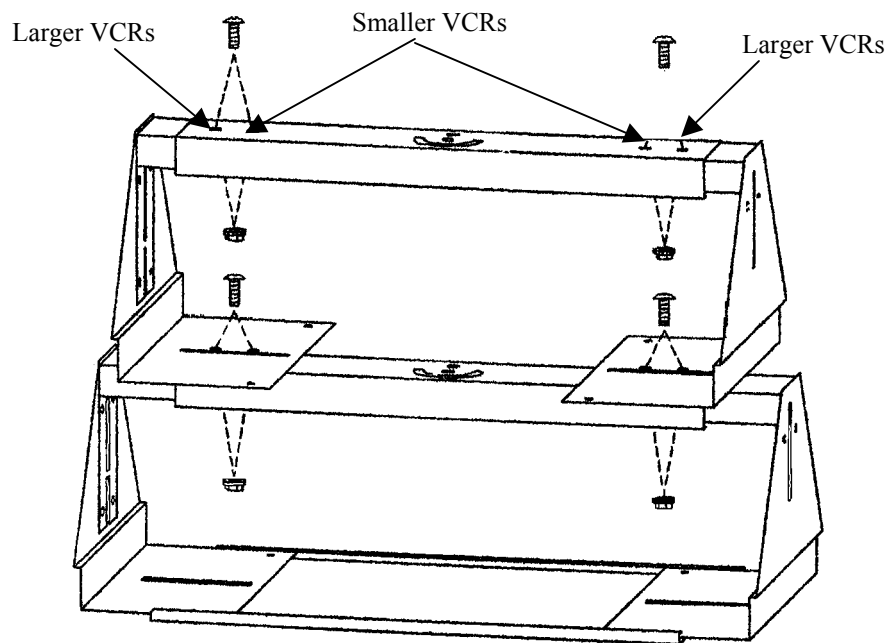

Figure 7. Stacking VCR Brackets
- a. Adjust top VCR Bracket Adapter to desired width by sliding out the left and right interior channels and locking them in position using two $\frac{1}{4}$ -20 X $\frac{5}{8}$ " combination screws and $\frac{1}{4}$ -20 flange nuts, one of each on each side (smaller VCRs use inside holes and wider VCRs use outside holes) (see Figure 7). Maximum extension for top VCR bracket is 19" wide.